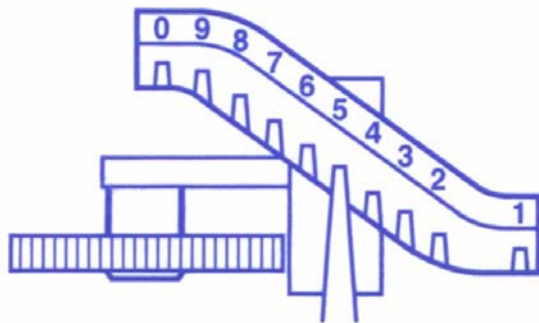

FIGURE 1
- 1) Set price wheels by positioning and fully engaging range arms (see Figure 1).
- 1) Set price wheels by positioning and fully engaging range arms (see Figure 1)